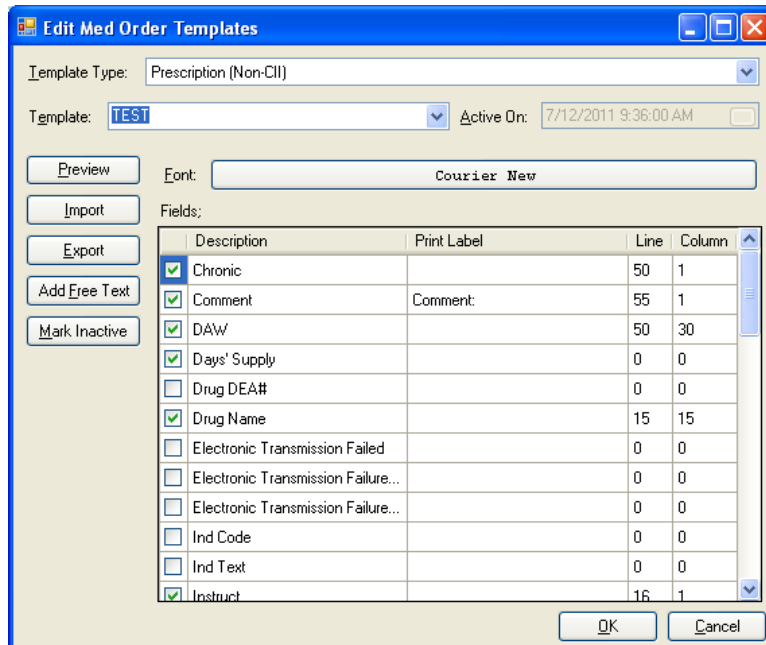

Figure 2-5: Edit Med Order Templates dialog
15. Select **Rx Print Editor** to display the **Edit Med Order Templates** dialog (Figure 2-5).